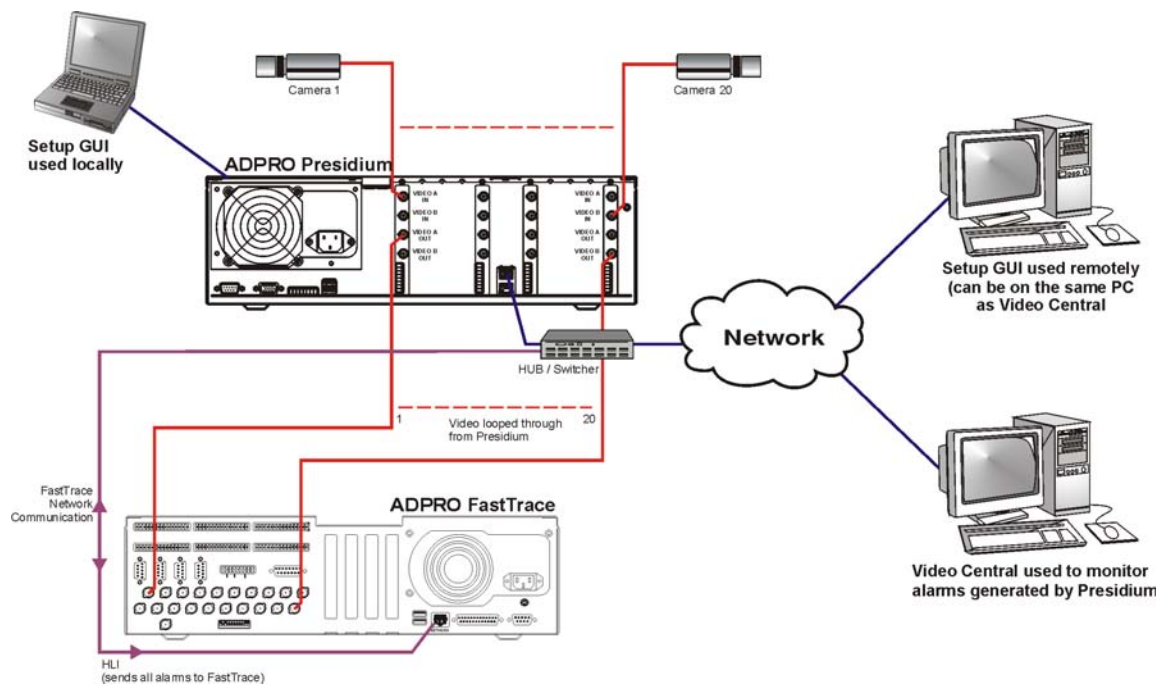

Figure 69: Typical Connections to a standard Presidium
1. Connect the FastTrace / FastTx / FastTrace-R to the Presidium as shown in Figure 69.